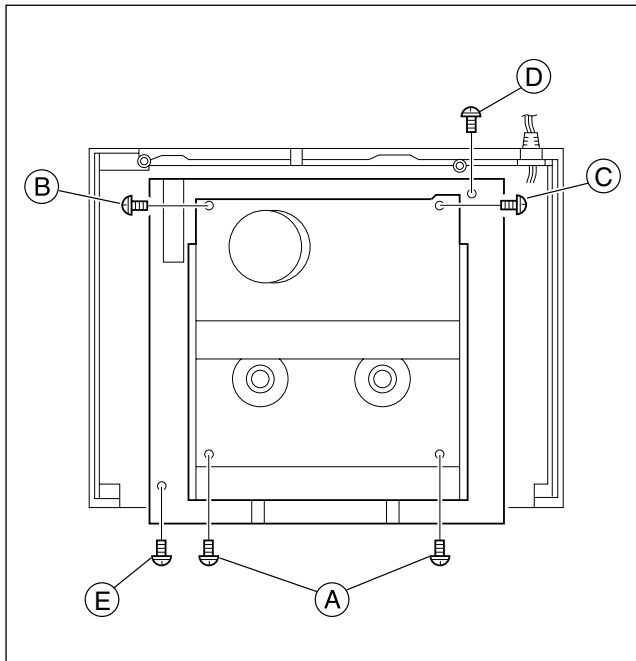

Fig. 1-4-1
- (1) Remove the Top cover, Bracket and Front panel assembly, and remove the Mini front board assembly for HR-J686M. (See 1.3 DISASSEMBLY/ASSEMBLY METHOD.)
- (2) Lower the cassette holder, and make the preparations required in order to remove the screws from the Mechanism assembly. (Refer to the "Procedures for Lowering the Cassette holder assembly" on page 1-2 of 1.3 DISASSEMBLY/ASSEMBLY METHOD.)
- (3) Take out 2 screws (A), 1 screw (B) and 1 screw (C) as shown in Fig. 1-4-1.